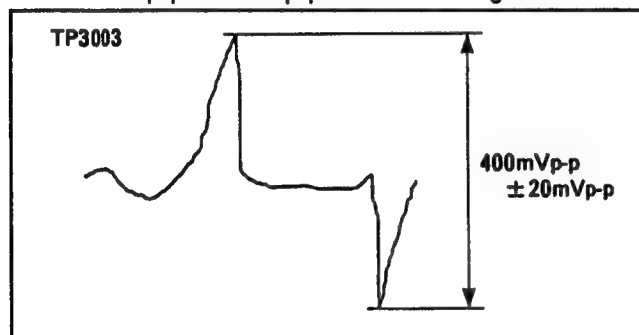

Figure E18
3. Adjust VR3007 so that the level becomes 400mVp-p \pm 20mVp-p as show in Figure E18.